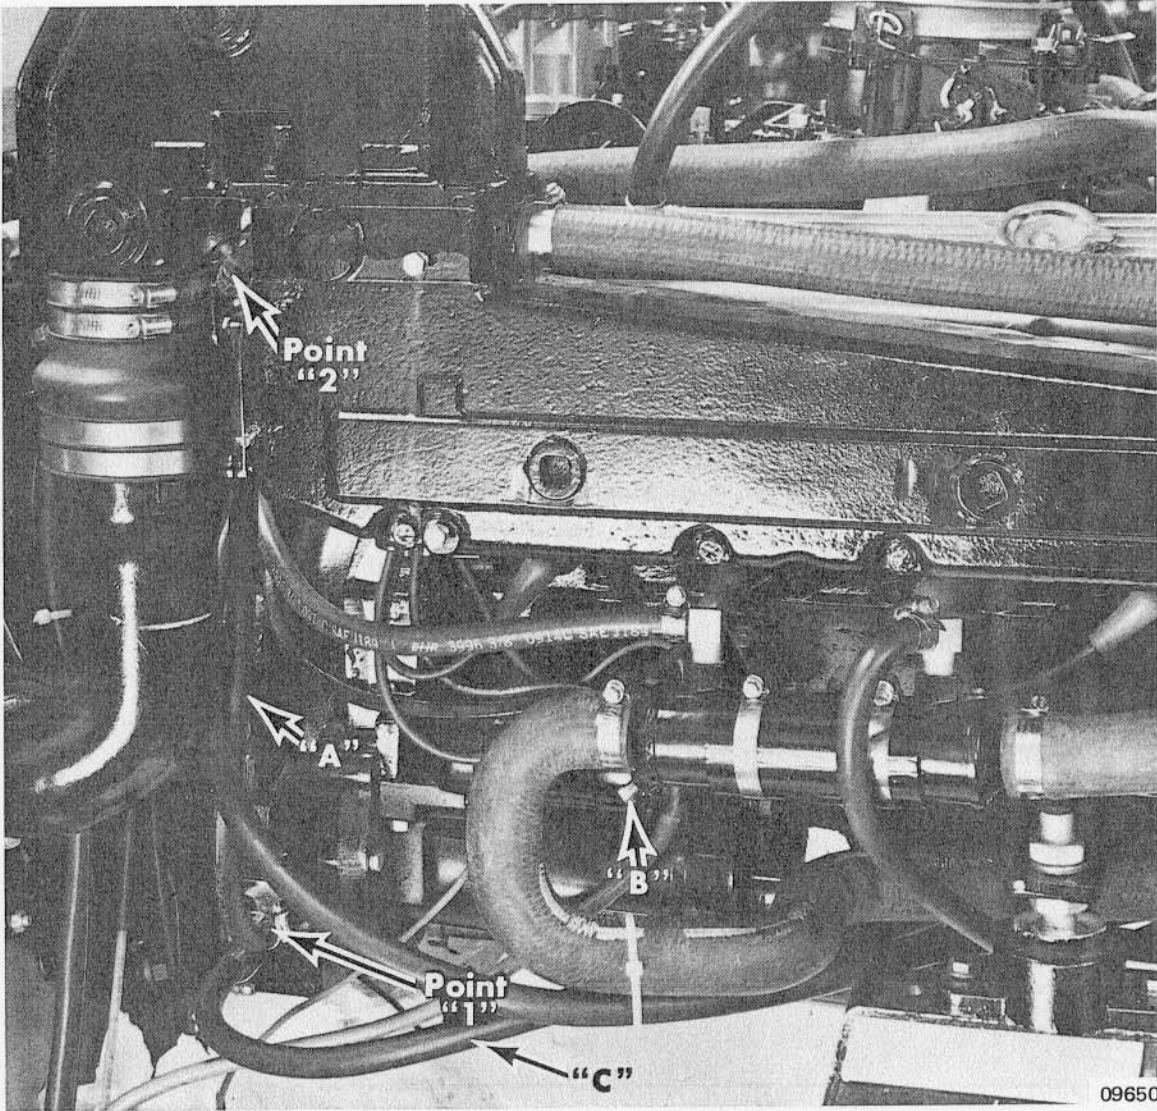

Figure 1. Transmission Oil Cooler
1. Drain transmission oil cooler by removing cooler outlet hose "A" at point "1". (Figure 1)
- a. Engines WITH Power Steering: Remove Power Steering oil cooler drain plug "B". (Figure 1) Remove transmission cooler outlet hose "A" from exhaust elbow point "2" (Figure 1) and pour anti-freeze (mixed at manufacturer's recommendation) into hose (a small funnel may be used) until anti-freeze appears at Power Steering oil cooler drain. Reinstall Power Steering cooler drain plug "B" and reattach hose "A".